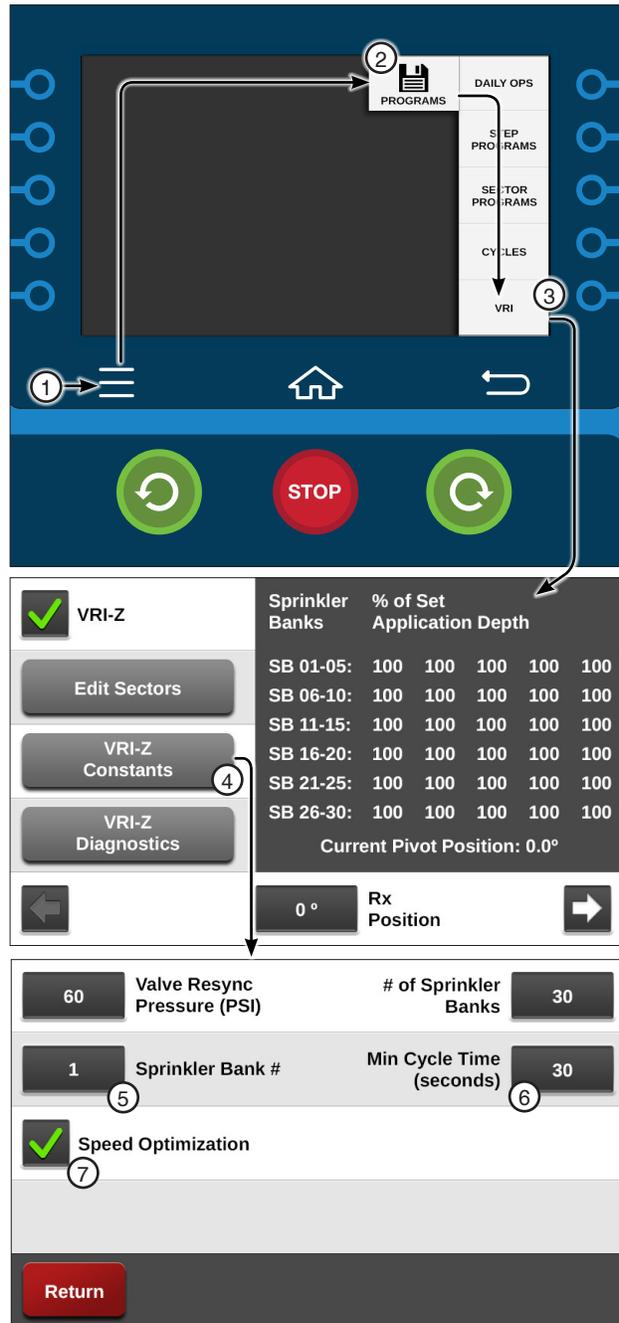

Figure 168-1 1. Menu 5. Sprinkler Bank #
1. Push **Menu**, **Programs**, **VRI** and **VRI-Z Constants** to display the VRI-Z Constants screen. Refer to Figure 168-1.
3. Select the **Min Cycle Time (seconds)** field and enter the minimum cycle time value using the numeric keypad. The range is 1-999 seconds. The default is 20 seconds. Refer to Figure 168-1.